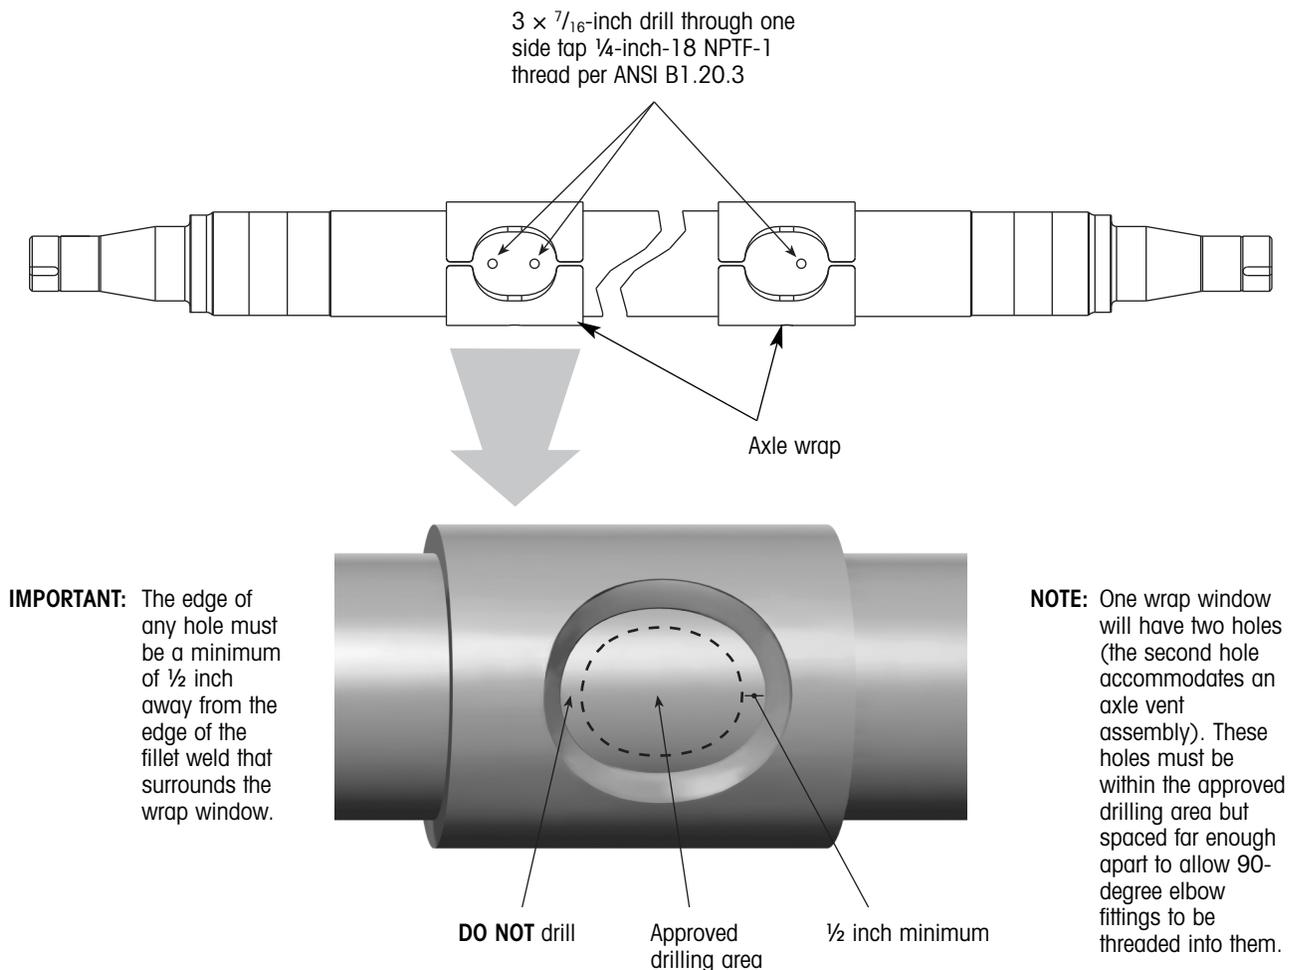

Figure 6. INTRAAX / VANTRAAX suspension axle drilling details
10. Using the information in figure 6 or 7, drill and tap three ¼-inch - 18 NPT holes in the axle wrap windows (on INTRAAX and VANTRAAX